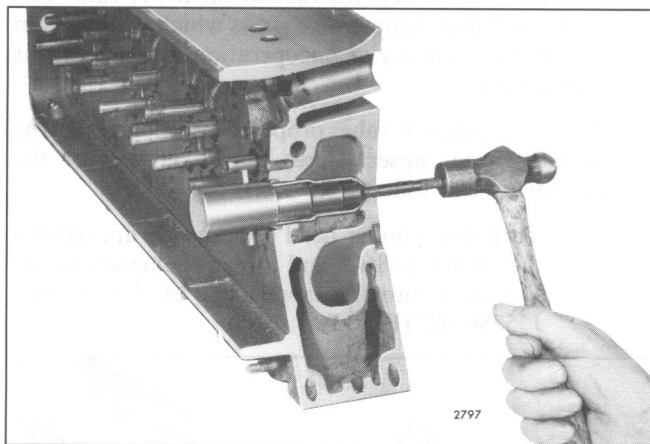

Fig. 1 - Removing Injector Tube with Tools J 5286-4C and J 5286-5
The bore in the cylinder head for the fuel injector is directly through the cylinder head water jacket (Fig. 1). To prevent coolant from contacting the injector and still maintain maximum cooling of the injector, a tube is pressed into the injector bore. This tube is sealed at the top with a neoprene ring and upset into a flare on the lower side of the cylinder head to create water-tight and gas-tight joints at the top and bottom.
2. Place the injector tube installer J 5286-4C in the injector tube. This tool or installer J 5486-20 may be used with semi-finished, service-only injector hole tubes (identified by the number "606" stamped on the top flange). Insert the pilot J 5286-5 through the small opening of the injector tube and thread the pilot into the tapped hole in the end of the installer (Fig. 1).